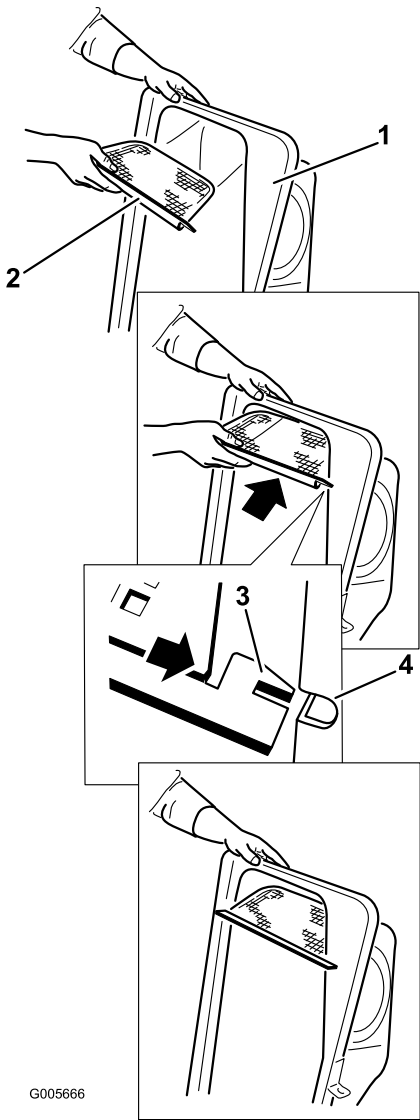

Figure 13
2. Install the screen as shown in Figure 13 and that it slopes down toward the collection bags.